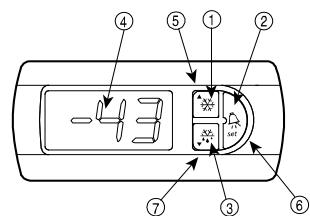
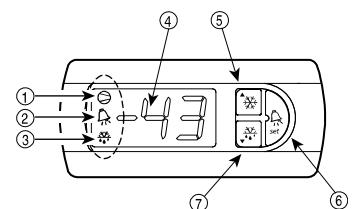

Fig. 2.3.1
Fig. 2.3.2
Figs. 2.3.1 and 2.3.2 shows the front panel of the plug-in: display and buttons. The front panel of the instrument features a three-digit display (ref. 4) and three LEDs for backlighting the buttons (refs. 1, 2 and 3 in Fig. 2.3.1), or alternatively three graphic symbols inside the area of the display (refs. 1, 2 and 3 in Fig. 2.3.2). These indicate:
- ① this LED indicates the **status (on or off)** of the actuator controlled, (normally a compressor); the button is back-lit by a green LED and is available only on the **Top** models. the button is backlit by LED or the graphic symbol  appears on the display.
Three buttons (5, 6 and 7 in Fig.2.3.1) are used to perform the activation and deactivation of the instrument's operating states and set the parameters. The use of the buttons can be divided into two different situations: one in of normal operation, and the other to modify the parameters. For each button, the following are the possible actions associated with both possibilities.